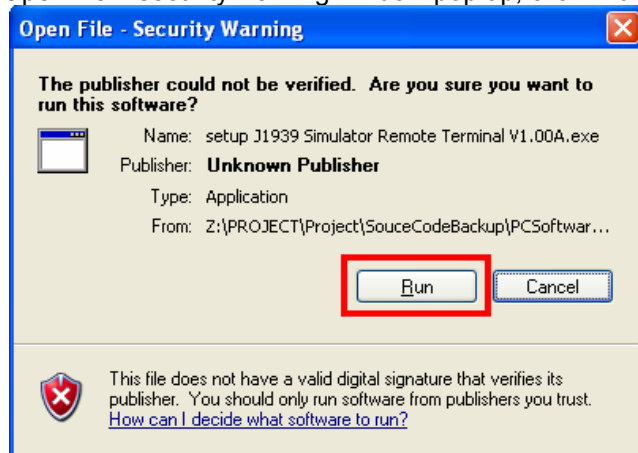

Figure A-2
2. Open file – security warning window pop up, click "Run" ( Figure A-2 )